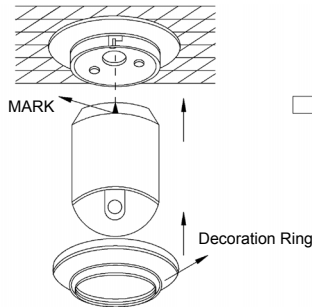

Figure 15
3) Aiming the "MARK" on the dome at the notch on the pedestal, push the dome upward to the end and rotate clockwise until it is clicked (Figure15).
4) Put the decoration ring near the ceiling and rotate it clockwise until it is tightened (Figure15).